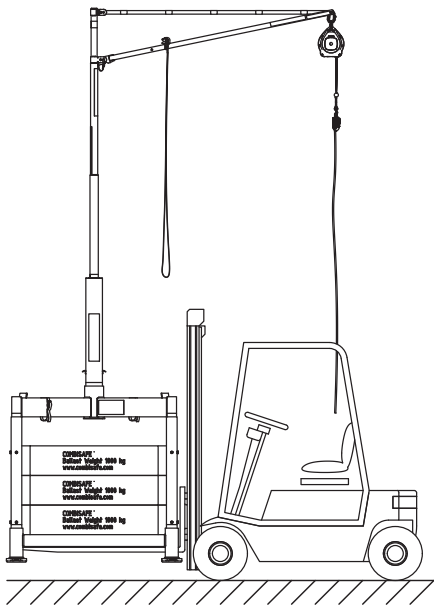

Figure 32. *Lifting the whole unit for transportation.*
1. Use a fork lift truck, or equivalent vehicle, place the forks underneath the Base with the forks as wide as possible, see Figure 32. Lift the unit slowly and make sure that no part on the Loading System MkII might be stuck, and thereby preventing it from being lifted smoothly.